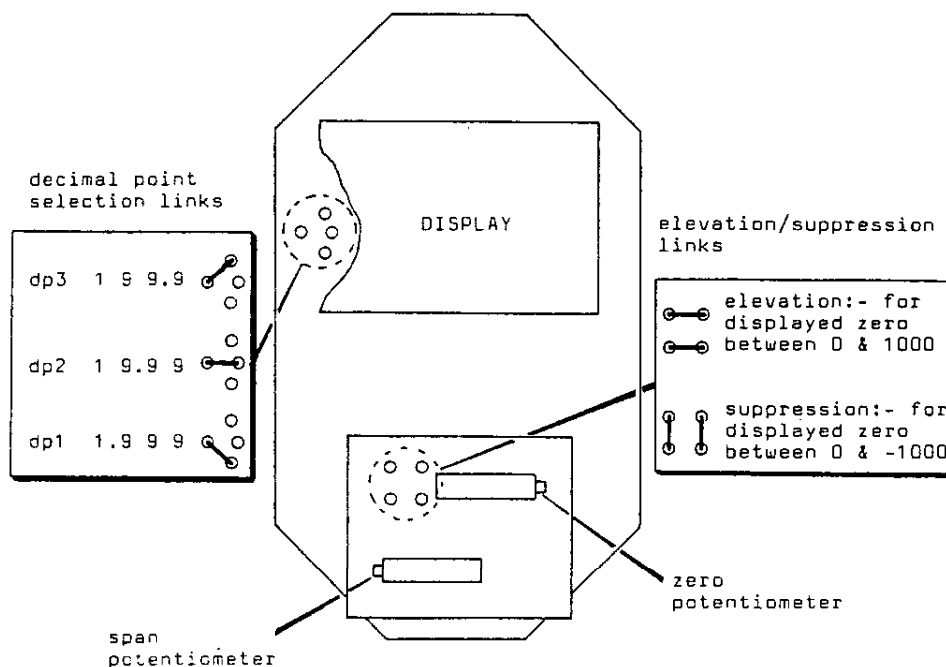

Fig 9 Location of calibration controls & links
The location of all calibration controls and links are shown in Fig 9.
- 2 The decimal point is required between the least two significant digits, therefore the decimal point selection link should be put in position dp3. See Fig 9.